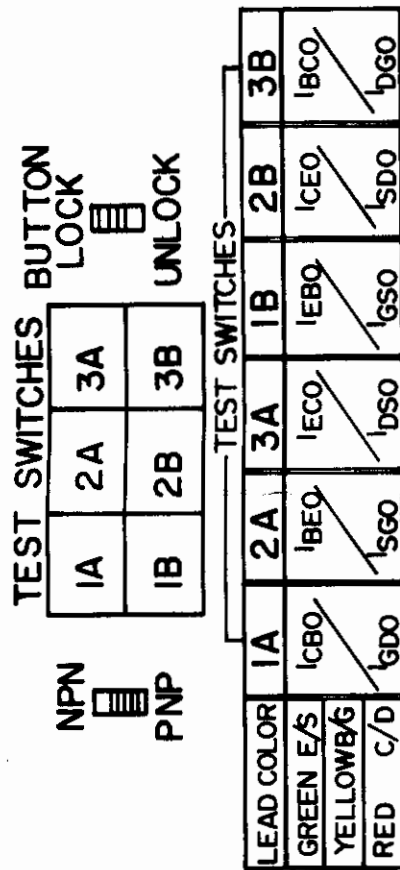

Fig. 3 Leakage Currents for Properly Connected Transistor
2. Refer to Fig. 3 and press the permutator button corresponding to the desired leakage test. Hold or lock this button down and press the LEAKAGE button. Note that for regular transistors, buttons numbered 2A and 3B will produce a full scale leakage reading, corresponding to the conduction of the forward biased base-emitter and base-collector junctions respectively. Junction FET's will produce a full scale reading on buttons 2A and 3B corresponding to the for-